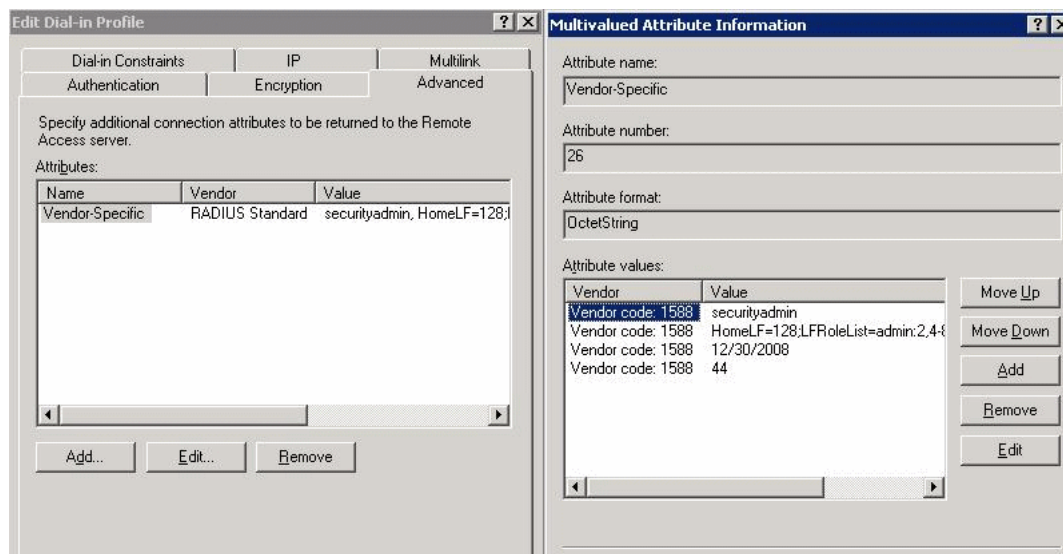

FIGURE 10 Windows 2000 VSA configuration
To configure a Windows 2000 internet authentication service (IAS) server to use VSA to pass the admin role to the switch in the dial-in profile, the configuration specifies the Vendor code (1588), Vendor-assigned attribute number (1), and attribute value (admin), as shown in Figure 10.